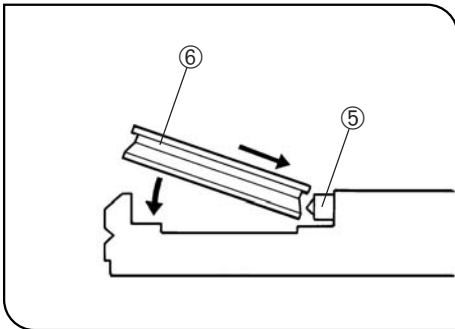

Fig. 38
4. Hold a phase contrast ring and, while pushing the spring ⑤ inside the turret with the edge of the phase contrast ring ⑥, insert the ring completely in the turret position until the ring frame contacts the bottom of the position. (Fig. 38)